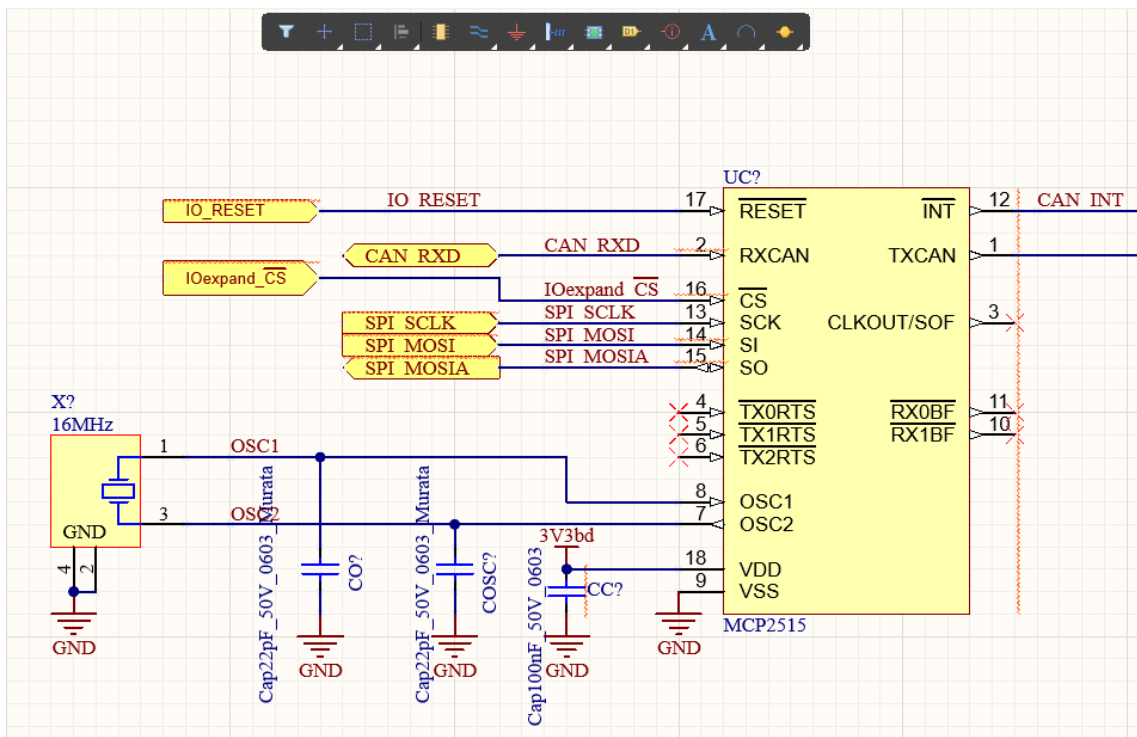

Figure 31. Finalized section of the CAN_Interface schematic
36. Place ports using methods described earlier, on CAN_RXD, SPI_SCLK, SPI_MOSI and SPI_MOSIA wires as shown in Figure 31 below.